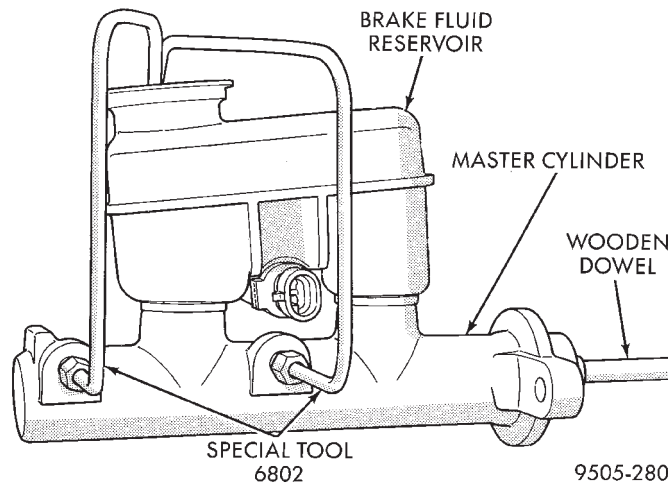

Fig. 87 Bleeding Master Cylinder
(2) Fill brake fluid reservoir with brake fluid conforming to DOT 3 specifications such as Mopar or an Equivalent.
(3) Insert an appropriate size wooden dowel in the end of the master cylinder piston (Fig. 87). Using the dowel, slowly depress the piston to the full extent of its travel and then allow the piston to return to its released position. Continue to repeat this step until bubbles no longer appear in the brake fluid. After no more air bubbles are expelled from the bleed tubes repeat the above procedure several more times to ensure all air is bled from master cylinder.